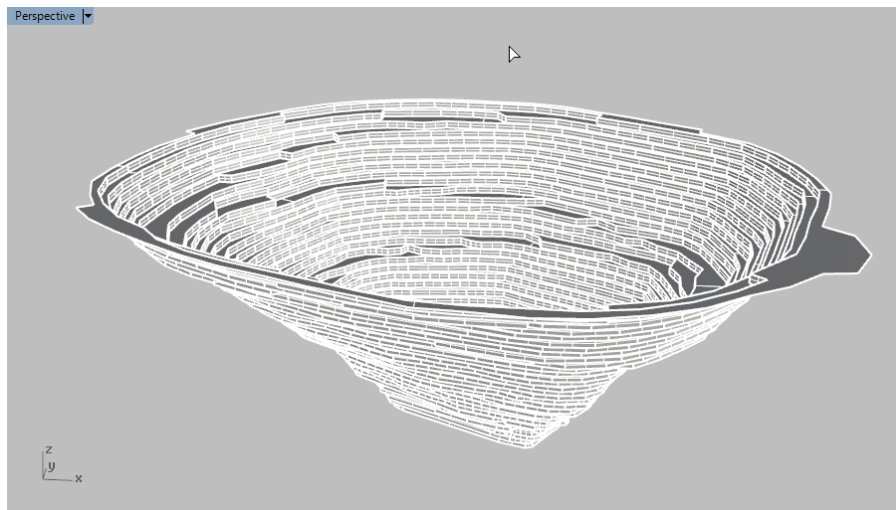

Figure 128: A single polysurface resulting from joining surfaces (benches) and polysurfaces (the vertical faces).
29. Type **_SelSrf** and **_SelPolySrf** to select all surfaces, then type **_Join** to join all the surfaces and polysurfaces into a single polysurface (Figure 128). Save your *Rhino* model as **Tut6C.3dm**.